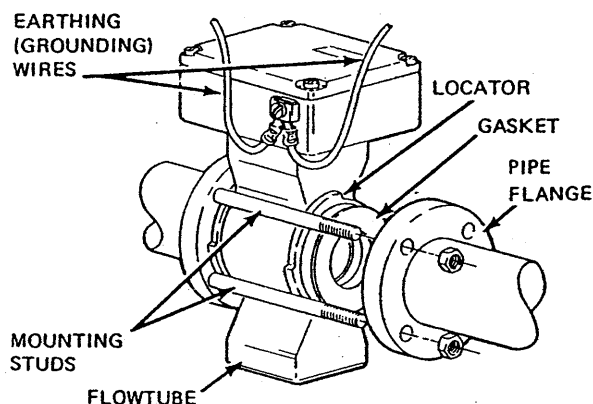

Figure 9.
4. Check that flowtube gaskets shown in Figures 9 and 10 did not come free during shipping; if they did, put them back into position on flowtube.
5. Check that locators shown in Figures 9 and 10 are on flowtube. If not, install them so that lobes on both locators are facing in same direction as shown.
6. For 15 or 25 mm (1/2 and 1 in) flowtubes, loosely install two studs in one side of pipeline as shown in Figure 9. Studs will be a guide to permit approximate alignment of flowtube with pipe. If grounding rings are being used, position them between flowtube ends and pipe flanges. Use additional suitable gasket material between grounding rings and flanges. Position flowtube between pipe flanges or, if grounding rings are used, between gaskets.
7. Install remaining mounting studs through pipe flange holes. If flowtube locators (shown in Figures 9 and 10) interfere with installation of mounting studs, turn locators about flowtube axis so that mounting studs will clear them. Tighten stud nuts alternately and uniformly until pipe flanges are snug enough to hold flowtube in place but loose enough to allow movement of flowtube for alignment.